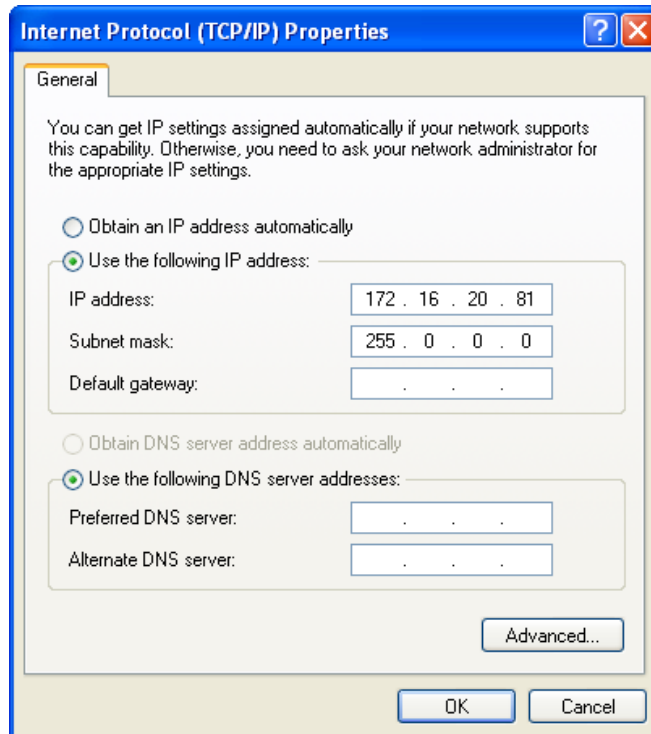

Figure 8-20 Setting up a mobile computer IP address
5. Select **Use the following IP address**, and enter the address (172.126.20.81, in this case) to be in the same network as the Director, as shown in Figure 8-20 on page 264.